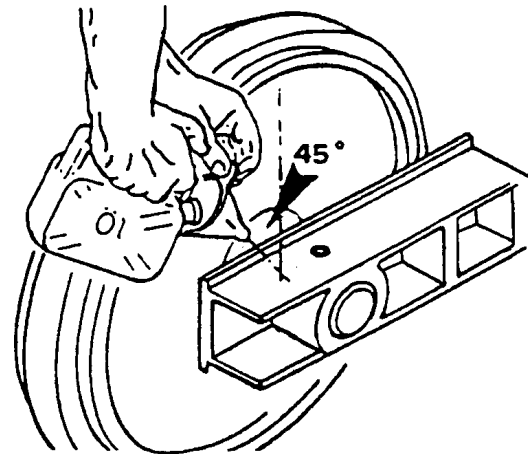

Fig. 3-66 Oil Fill Position
- Position the idler wheel so the fill plug is 45° from vertical as shown in fig. 3-66. Remove plug using a 6mm allen wrench and fill the idler wheel with SAE 90 oil until it runs out the hole. Install plug and tighten.